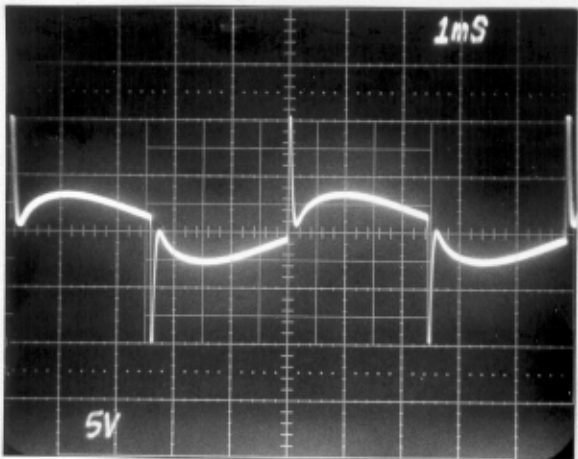

Fig. 11. Contour in.
- 7) Engage Contour switch, compare to Fig. 11. (Disengage).